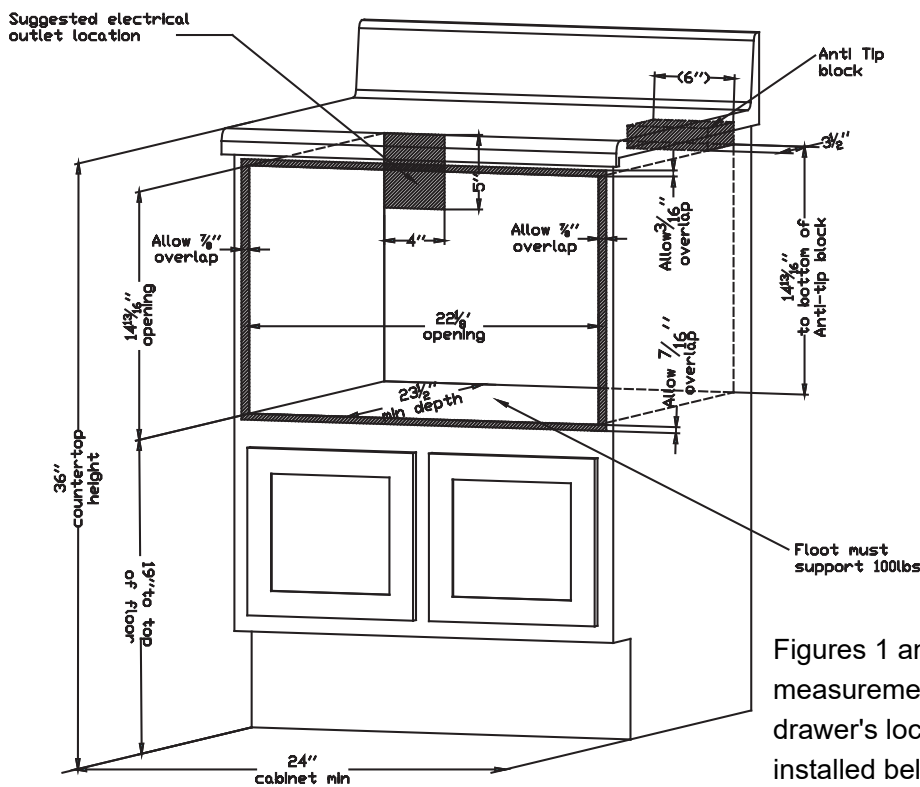
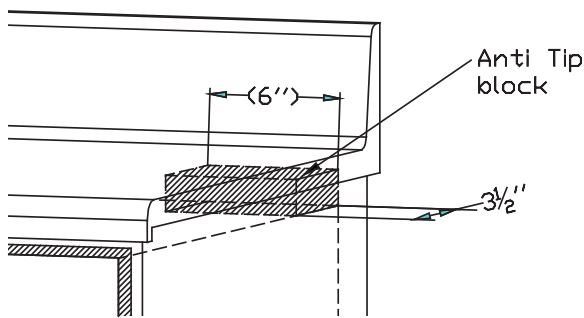

Figure 1
Figure 3
For SAFETY CONSIDERATIONS do not install drawer in any combustible cabinetry, which is not in accord with the stated clearances and dimensions on pages 2 and 3. See Figure 1.
- Dimensions that are shown in Figure 1 must be used. Given dimensions provide minimum clearance. Locate electrical outlet in the shaded area in the upper left-hand corner of the cutout. See Figure 3.
Figures 1 and 2 contain many Microwave Drawer measurements for reference when planning the drawer's location. This Microwave Drawer can be installed below any electric or gas wall oven.
To reduce the risk of tipping of the drawer, the Anti-Tip block must be properly installed located 14 13/16-inches above the floor on which the Microwave Drawer will sit. The 6-inch Anti-Tip block must be provided by the installer. See Figures 1 and 3. The Anti-Tip block prevents serious injury that might result from spilled hot liquids.